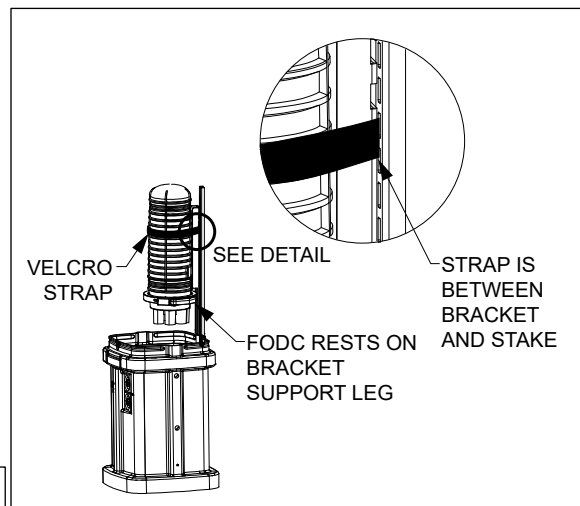

Figure 3 Install FODC
5. Tighten the Velcro strap around the FODC dome to secure it to the stake (Figure 3). If necessary, use the second Velcro piece to lengthen the strap so that it extends all the way around the dome.